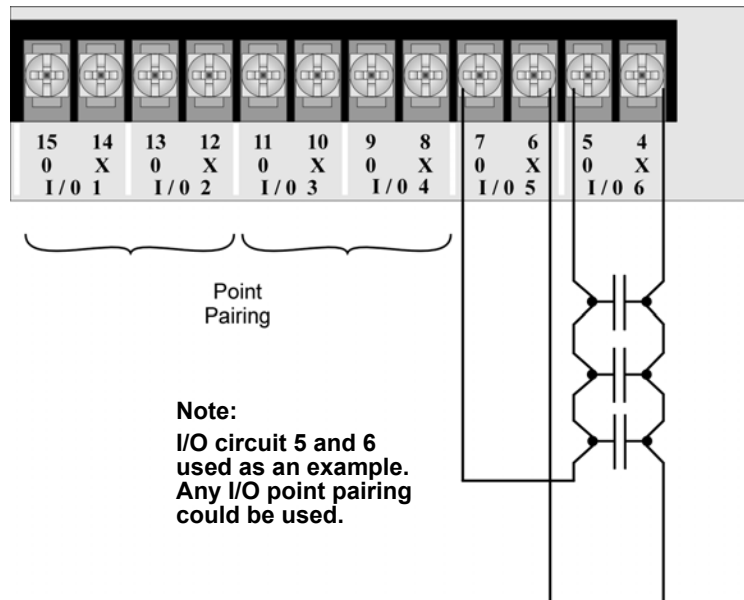

Figure 3.12 Class A initiating Switches
1. Wire the Class A switch as shown in Figure 3.12.
**NOTE:** In programming any point that uses multiple I/O circuits are always referred to as the lowest I/O circuit number used. For example, Figure 3.12 uses both I/O circuit 5 and 6, so in programming it would be referred to as point 5